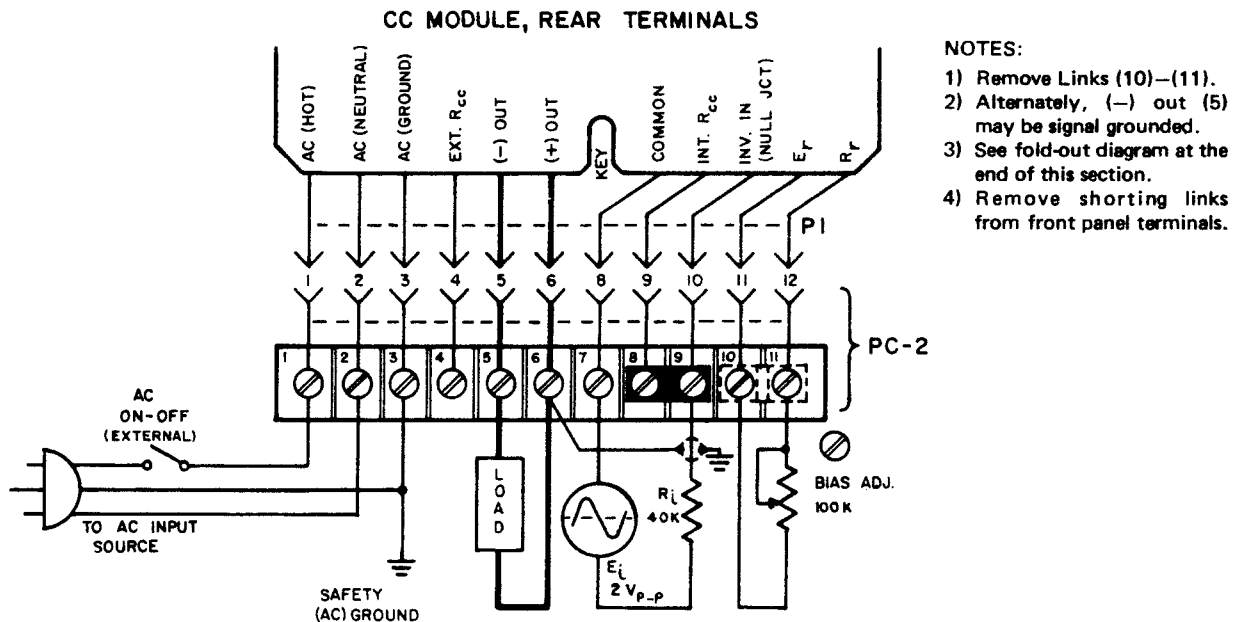

FIG. 3-8 CONNECTIONS FOR SINE WAVE PROGRAMMING.
- a) The standard control current (I_b) must be reduced to one-half its former value ($I_{b1} = 0.05$ mA). This is accomplished by introducing an additional series resistance into the d-c reference voltage circuit. Remove rear link (10)–(11) and connect a 100 K rheostat in place of the link. The rheostat is adjusted later to the exact output level of 0.1A d-c.
- c) Connect the external programming source, the load, and the calculated resistors to the CC barrier-strip as shown in FIG. 3-8. Turn the CC Current Stabilizer "on." With a momentary short circuit between rear terminals (4) and (8), adjust ZERO CURRENT CONTROL ("E_{i0} Null" = ZERO CURRENT CONTROL, R18) to zero output current. Remove short and adjust external 100 K rheostat for 0.1A output. Turn on signal generator and adjust amplitude for maximum sine wave output without distortion, as observed on an oscilloscope across the output terminals (5)–(6).
- d) After the programming set-up has been connected as shown in FIG. 3-8, operation can commence. The sine wave frequency response of the CC under the operating conditions described will be approximately 1.6 kHz, calculated by the relation: